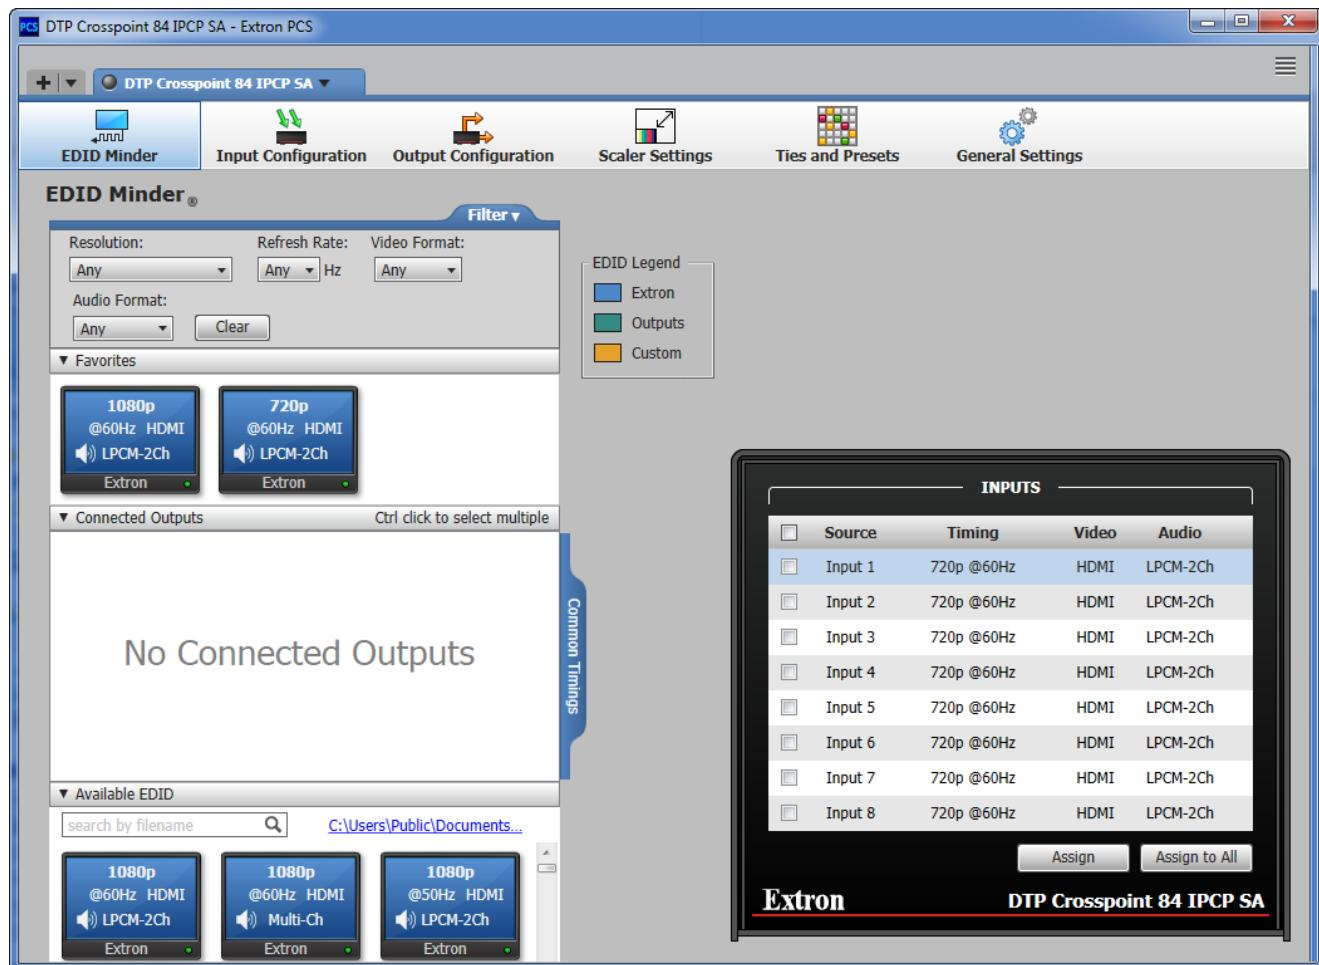

Figure 37. Product Configuration Software (DTP CrossPoint 84 Shown Connected)
2. Select (click) your DTP CrossPoint and click **Connect** (1). The Product Configuration Software opens to the EDID Minder page (see **figure 37** on page 75).